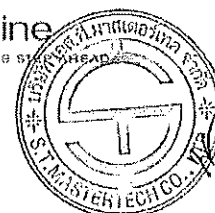

Fig. 90- Build-up Welding
2. Repair with either manganese steel electrode or wire. If more than 3 layers expected, buffer with 18 8 Mn type. Grind and check for welding defects, Fig. 90.
Grind and check for welding defects, Fig. 90.